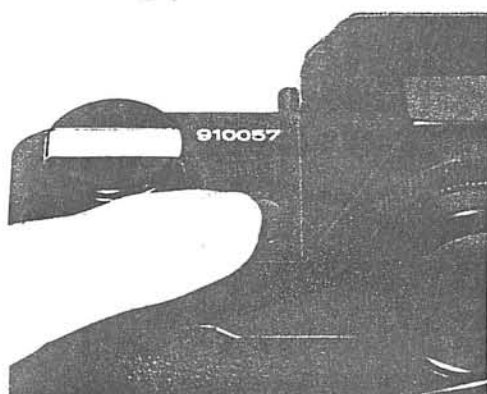

Fig. 15
1. Remove the film camera from the main unit as is the case with battery replacement. Look through the viewfinder while holding the film camera to the light and press the battery check button on the top of the film camera. (Fig. 15) A pointer is seen on the left-hand side of the viewfinder as in fig. 15.